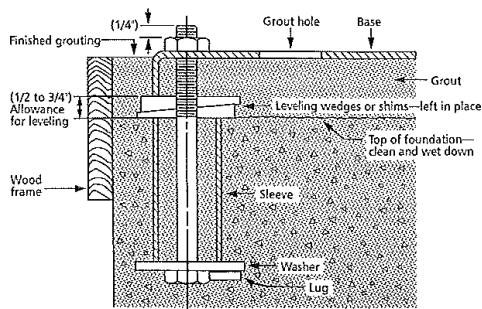

Figure 1
- 2.3.1. It is recommended that the bedplate be grouted to a foundation with solid footing. Refer to Figure 1.